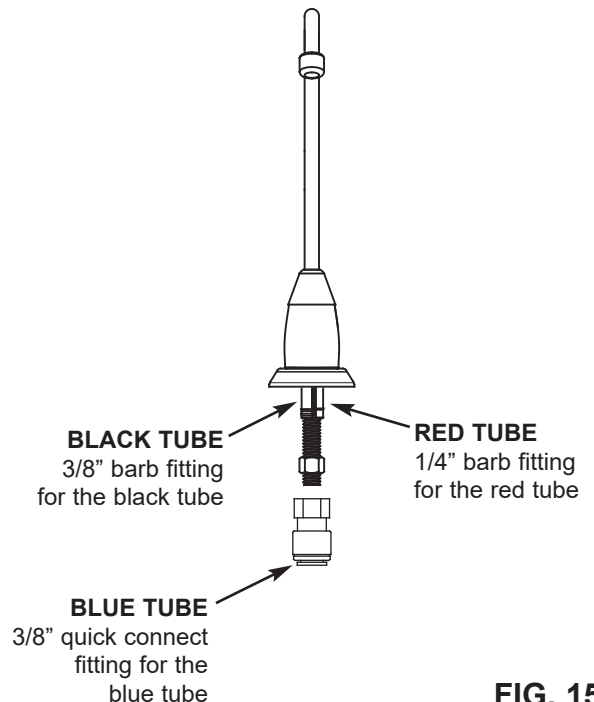

FIG. 15
3. Locate the 3/8" black tubing and push one end onto the 3/8" faucet barb fitting, see Fig. 15.
4. Locate the 1/4" red tube assembled to the RO assembly. Remove shipping cap from the loose end of the red tube. Route the red tubing from the bottom, up through the faucet mounting hole. Cut tube to length as needed, cutting the end square. See Fig. 17. Push the end of the tubing onto the 1/4" barb fitting. See Fig. 15.
8. Locate the 3/8" blue tubing and insert one end all the way into the quick connect fitting on the bottom of the faucet stud. See Fig. 15. Push tubing through the collet and all the way into the fitting. Full engagement is 3/4" length of tube into the fitting.